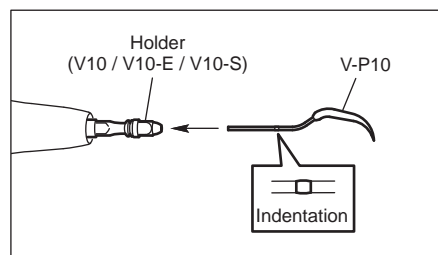

Fig. 2
- 2) Insert V-P10 into holder (V10 / V10-E / V10-S). Insert it into holder until holder (V10 / V10-E / V10-S) aligns with the indentation of the metal core of V-P10 (plastic Tip). (Fig. 2)